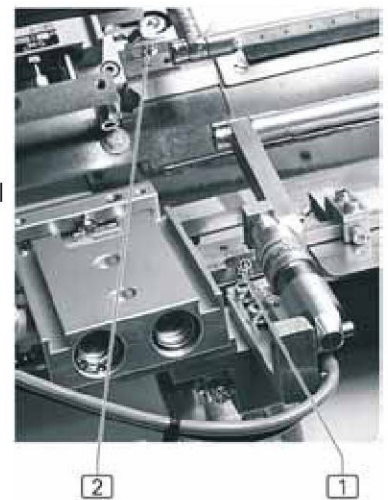

fig. 18
4. **fig. 18:** If necessary, adjust the pressure with the adjusting screws **1** and **2**. The pressure is set separately for each surface. The adjustment screw is an Allen screw fixed with a counter nut. By turning anti-clockwise the pressure in the front area of the clamp is increased.